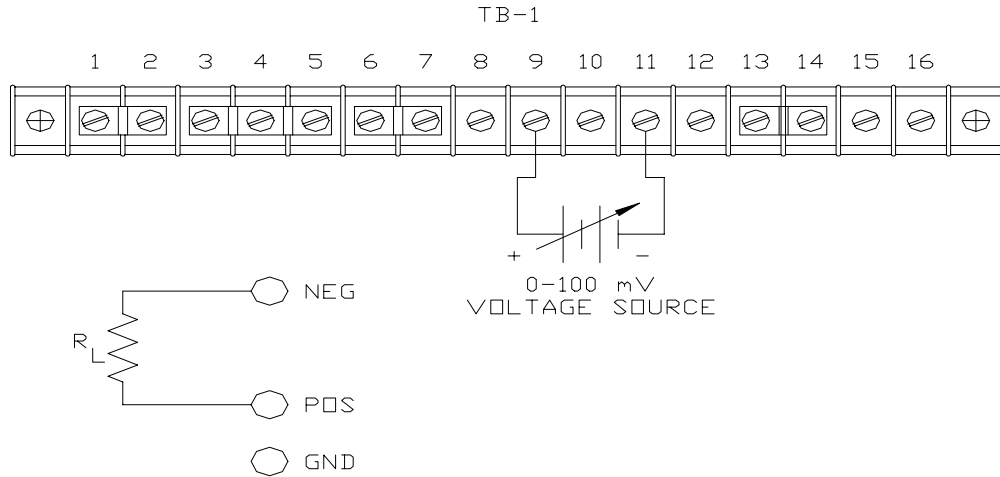

Figure 3-4
- b. External Current Programming Using a Voltage Source. The voltage coefficient for remote current programming is 1 millivolt per percent of rated output current or 100 millivolts = 100% of rated output. On models with 10 V programming, the programming coefficient is 0.1 volt per percent of rated output or 10 volts = 100%. See Figure 3-4 for connection requirements.